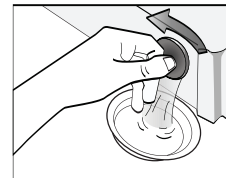

Fig 11
- 4.Reconnect the inlet pipe to tap. Remove the remaining water in drain pump(Fig11).